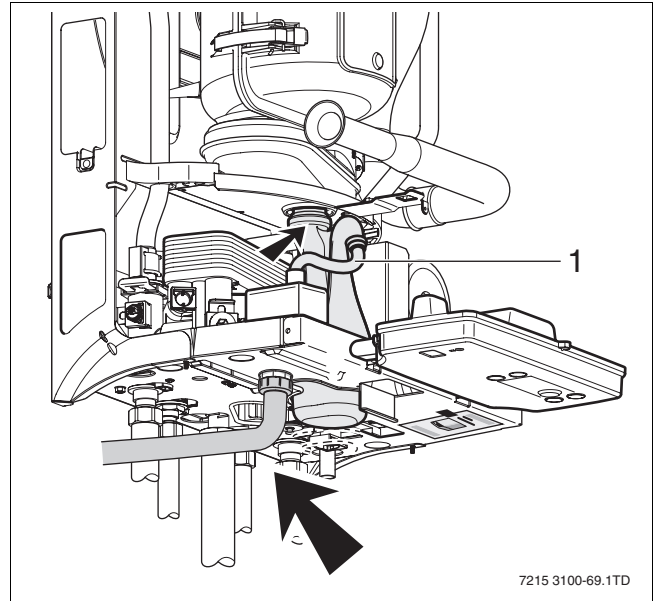
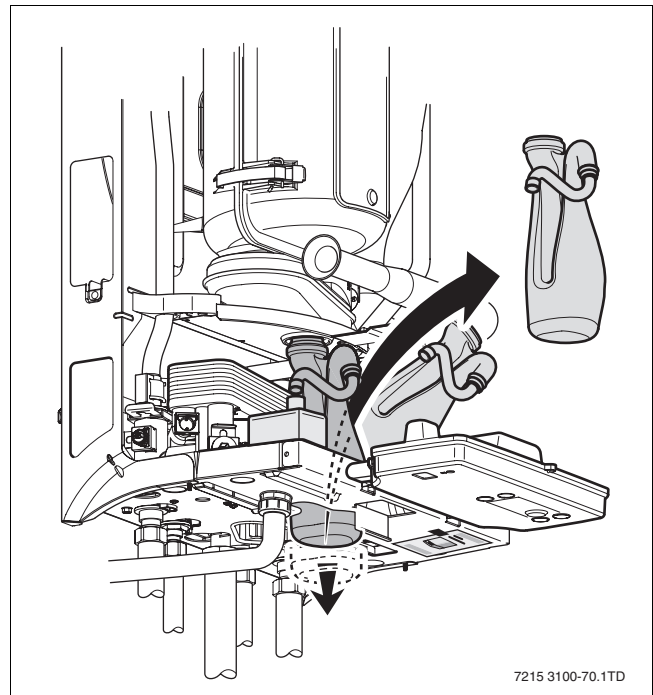

Fig. 74 Disconnect hose from condensate trap
Fig. 75 Remove the condensate trap
- Remove the condensate trap (→ fig. 74 and fig. 75).
- Undo the condensate drain connection (→ fig. 74, item 1) and remove the syphon.